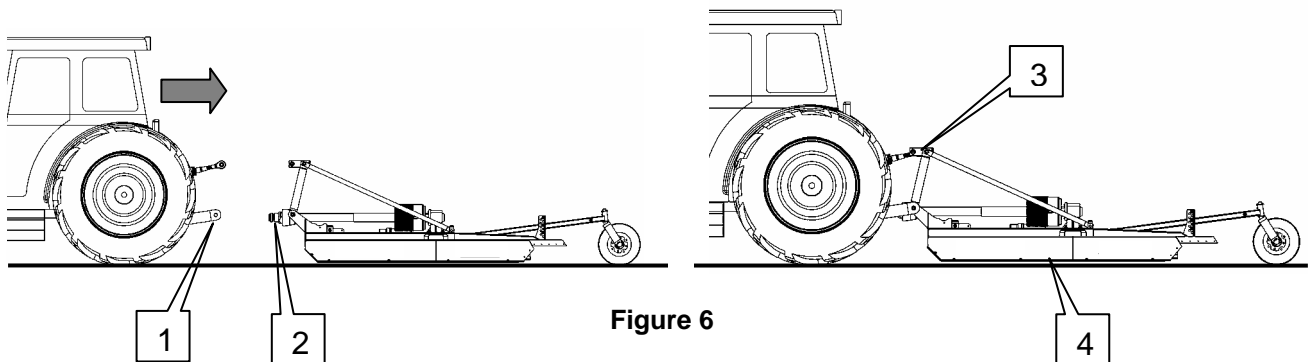

Figure 6
- Reverse tractor squarely to the machine (*Fig.6*).
- Gradually reverse tractor until lift arm holes (1) are level with mounting pins (2).
- Fit top stay of machine to top link on tractor (3), adjusting the length with the machine level on the skids (4)